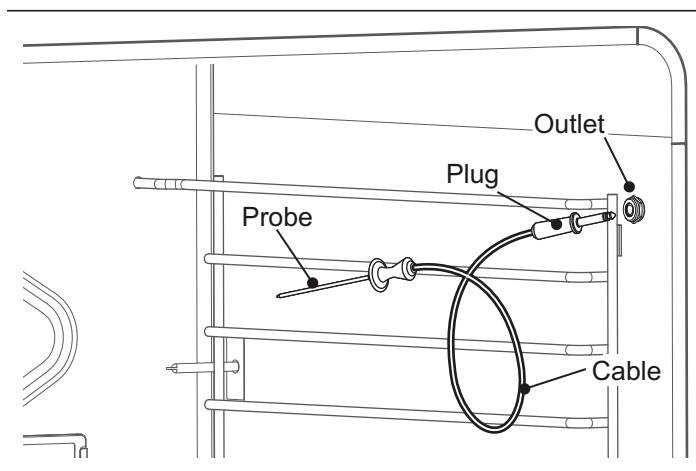

Figure 25: Meat Probe
1. In the large oven, or in the small oven on select models, locate the outlet (Figure 25).